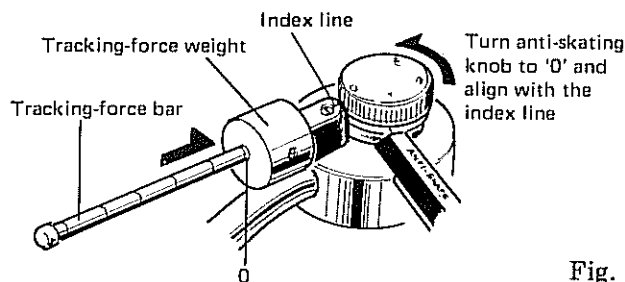

Fig. 6
1. Slide the tracking-force weight down to the base of the tracking-force bar (Fig. 6).
2. Turn the anti-skating knob counterclockwise and set to '0' (Fig. 6).